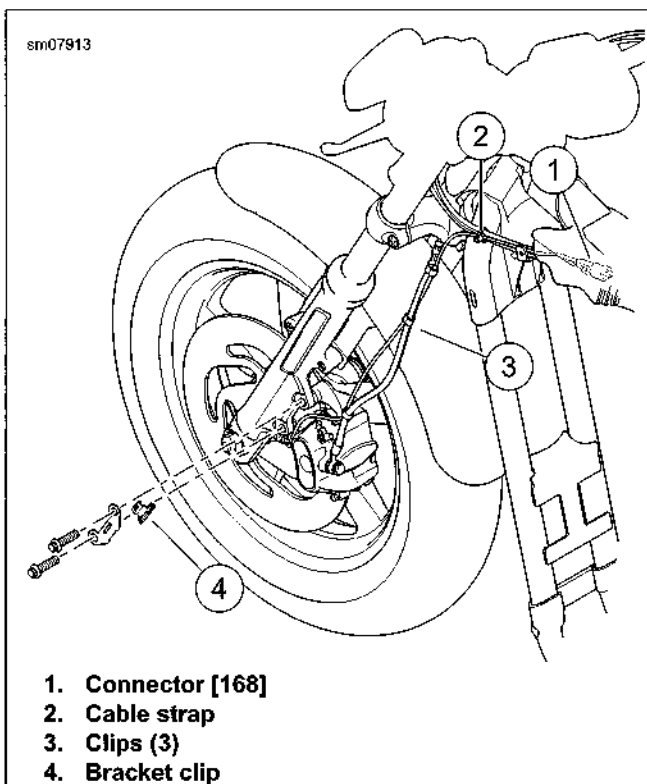

Figure C-1. Wheel Speed Sensor (WSS)
4. See Figure C-1. Remove WSS wire harness.
- a. Separate WSS connector [168] (1) housings.
- b. Cut cable strap (2).
- c. Remove lead clips (3) around brake line.
- d. Remove WSS mounting clip (4).